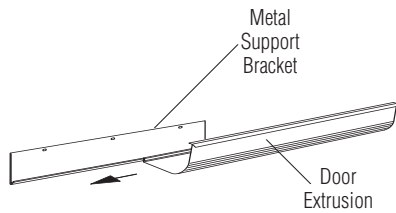

Figure 7
7. Slide plastic door extrusion onto metal support bracket (Figure 7).